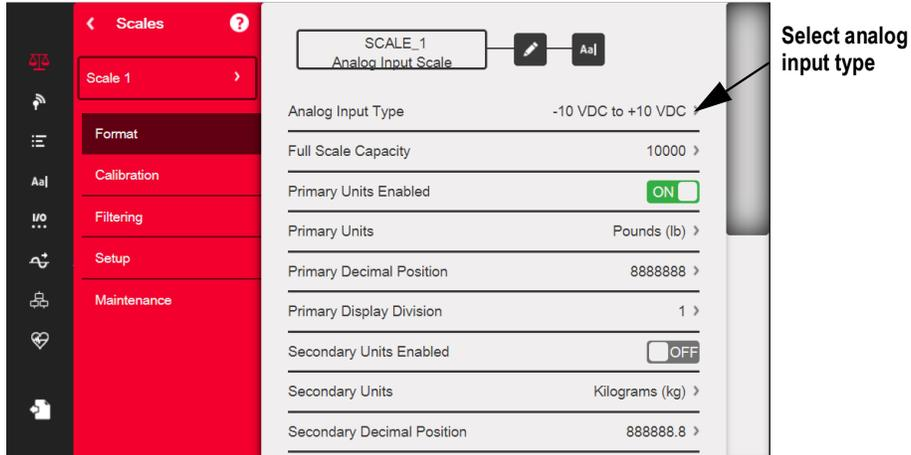

Figure 3. Analog Input Scale Parameters
6. Analog Input Scale parameters will display. See Figure 3.